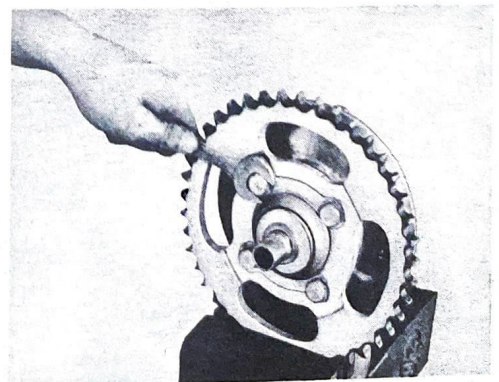

Fig. 5-4-4
- b. Remove the sprocket mounting bolts. (Fig. 5-4-4)